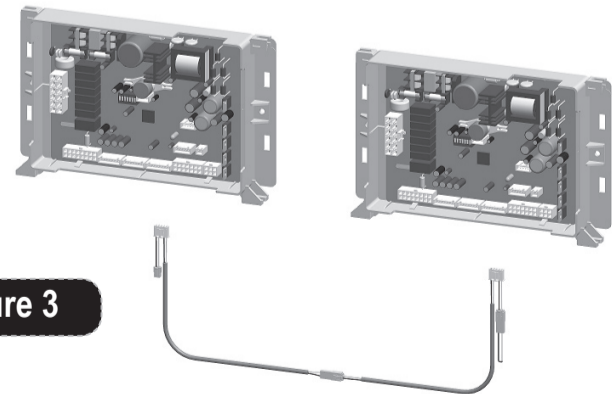

Figure 3
- ④ Plug the wire connector into the 'Main PCB' connector inside both each other units. See Figure 3 for illustration of the Main PCB connector inside units.